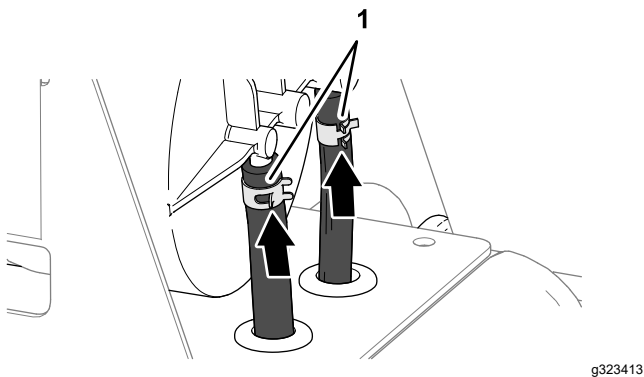

Figure 124
4. Secure the hoses to the fittings with the clamps (Figure 124)